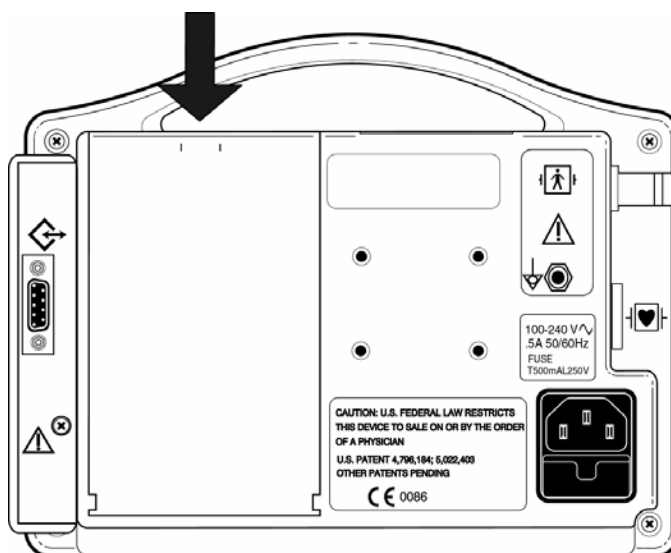

Figure 17: Removing the Monitor Battery Pack
- 3) Carefully remove the battery pack from the rear panel of the monitor. Refer to Figure 17.